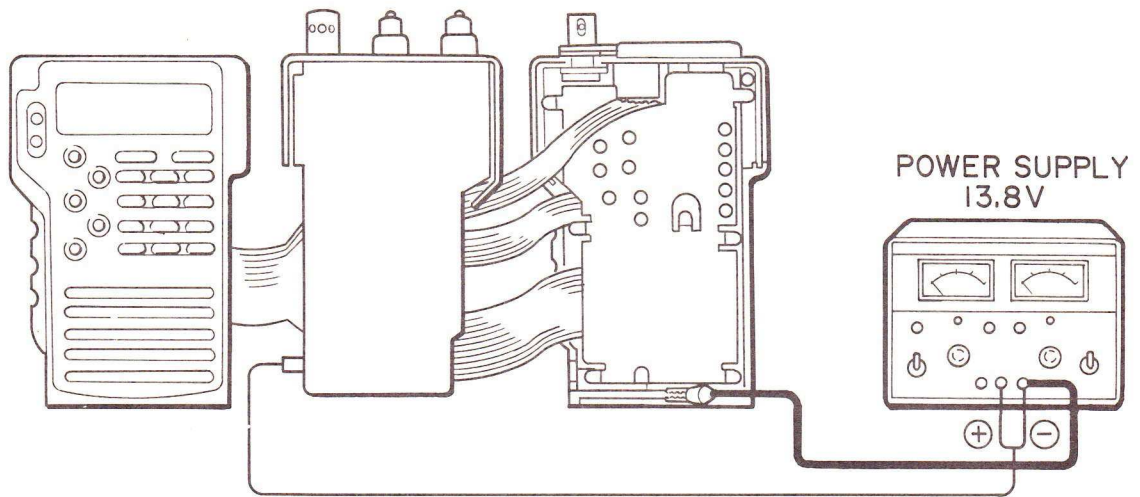

Figure 2-8 Ground cable running for transmit power alignment
**NOTE:** Before alignment, put the supply voltage and the transceivers voltage in agreement with each other. For accurate alignment of the transmission output, the RF P.C. board's shield plate should remain attached. Then, connect the ground cable as shown in Figure 2-8.